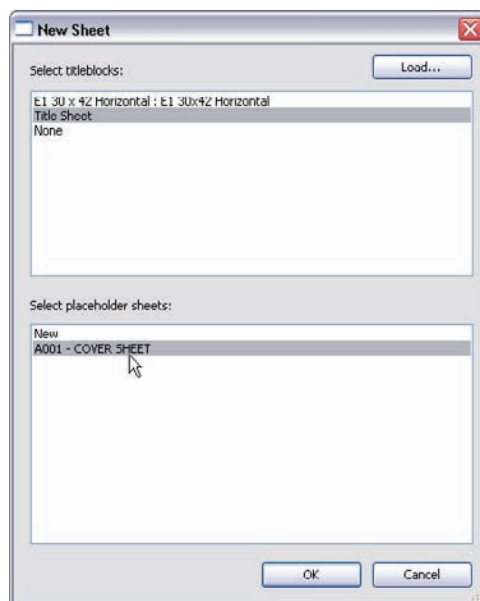

FIGURE 14.30 Adding the new sheet
9. Also in the New Sheet dialog, you see the placeholder sheet you added to the schedule. Select it, as shown in Figure 14.30.